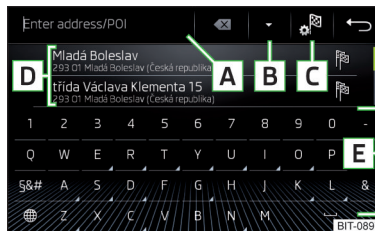
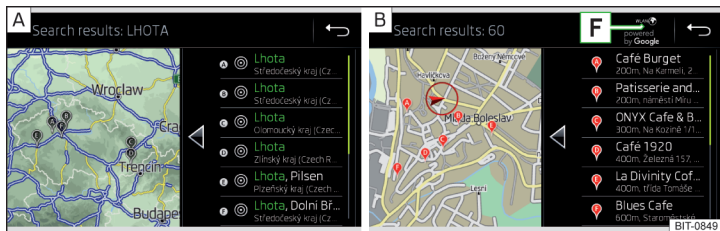

Fig. 225
Fig. 226 List of destinations visited: in the navigation data / online
Function surfaces » Fig. 225 and » Fig. 226
A list of the destinations found is displayed in area **D** » Fig. 225.
- or: Tap the **B** » Fig. 225 function surface.
- 📍 Destinations found in the navigation data » Fig. 226 - **A**.
- 📍 Destinations found online » Fig. 226 - **B**.